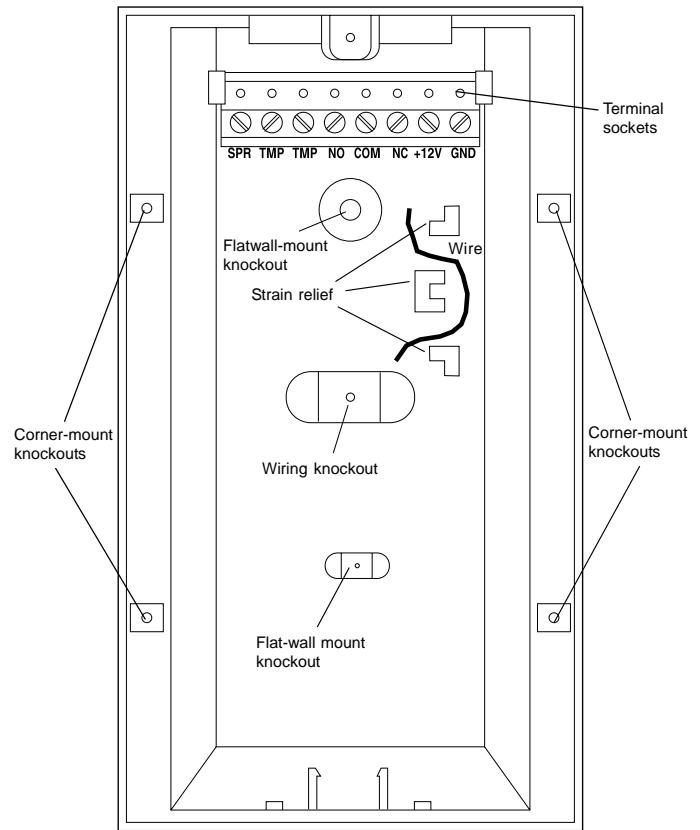

Figure 3. Detector Base
4. Remove the appropriate wiring and mounting knockouts from the back cover. The detector can be mounted on a flat wall or in a corner. See Figure 3.
7. Run each wire through the strain relief and under the appropriate screw terminals on the base and tighten the screws. See Figure 3.